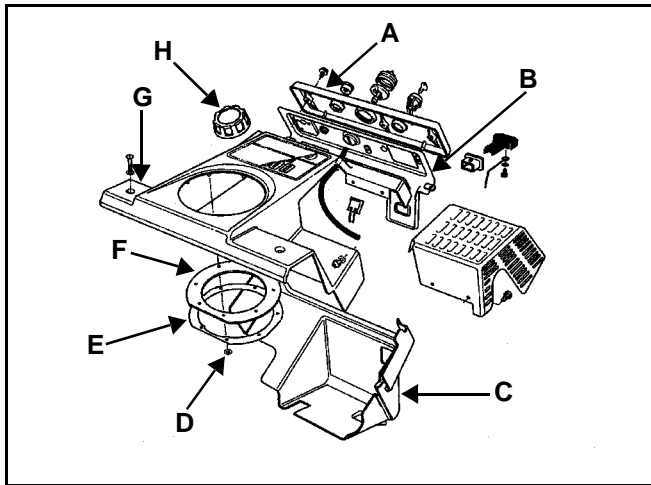

Figure 31
- To remove the upper shroud, remove the two bolts and locknuts in the front corners of the shroud (Figure 31).